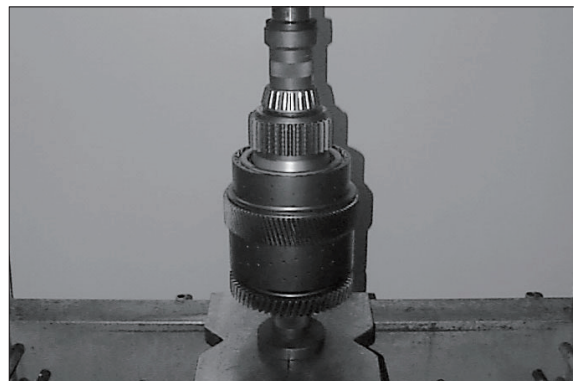

Figure 225
(10) Lift the disc carrier out of the clamping ring (S). To ensure the exact locating of the single components, preload the bearing with 100KN (10 t) (figure 225).